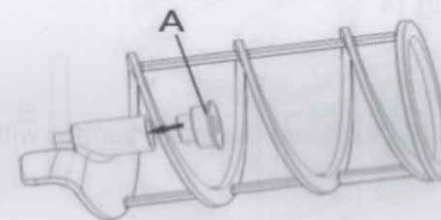

Fig.12
Gasket (A) on stirrer. see Fig.12